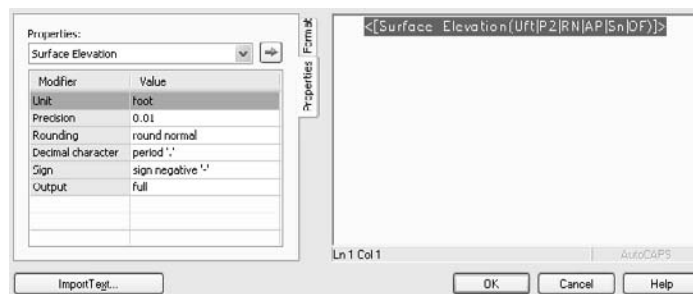

Figure 1.17
4. Right-click Existing Major Labels and select Edit to display the Label Style Composer dialog shown in Figure 1.17.